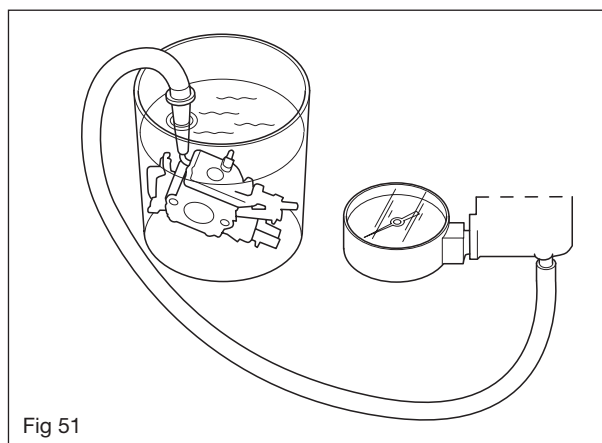

Fig 51
See Figure 51 and carry out the following check:
Assemble the carburettor and secure the suction hose (K), the throttle cable (M) and the fuel hose (N). Hook the link arm (P) to the air valve and connect the connector. See figure 51.